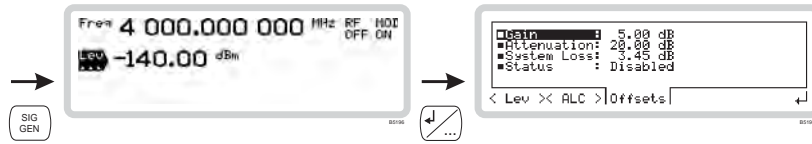

Fig. 3-24 RF level offset
- 1 From the RF level menu of Fig. 3-21, touch <Offsets> or press **[<TAB>]** to display the RF offset screen (Fig. 3-24).